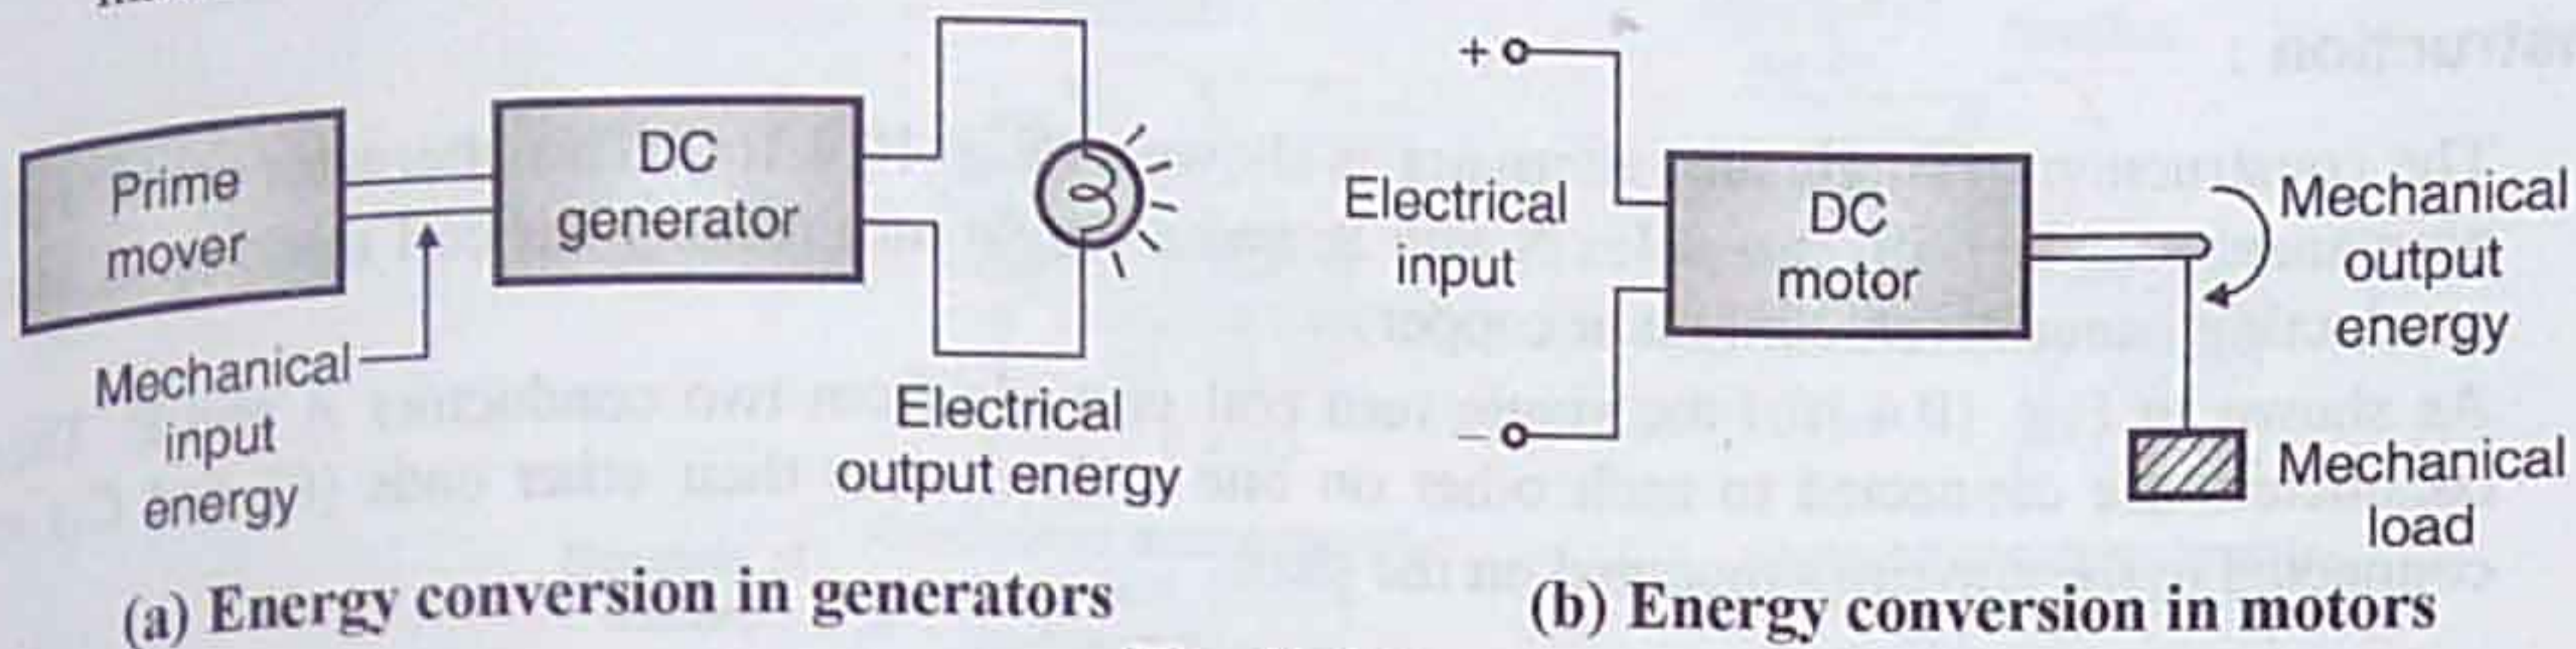

Fig. 10.3.1
As shown in Fig. 10.3.1(a), a prime mover supplies mechanical energy to the DC generator which generates electrical output energy.
Fig. 10.3.1(b) shows the operating principle of a DC motor. It accepts the energy in the electric form from D.C. source and converts it into mechanical energy at its output (shaft).
- The armature winding is a rotating winding which is mounted on the shaft. The shaft is mechanically coupled to another machine called prime mover as shown in Fig. 10.3.1(a).